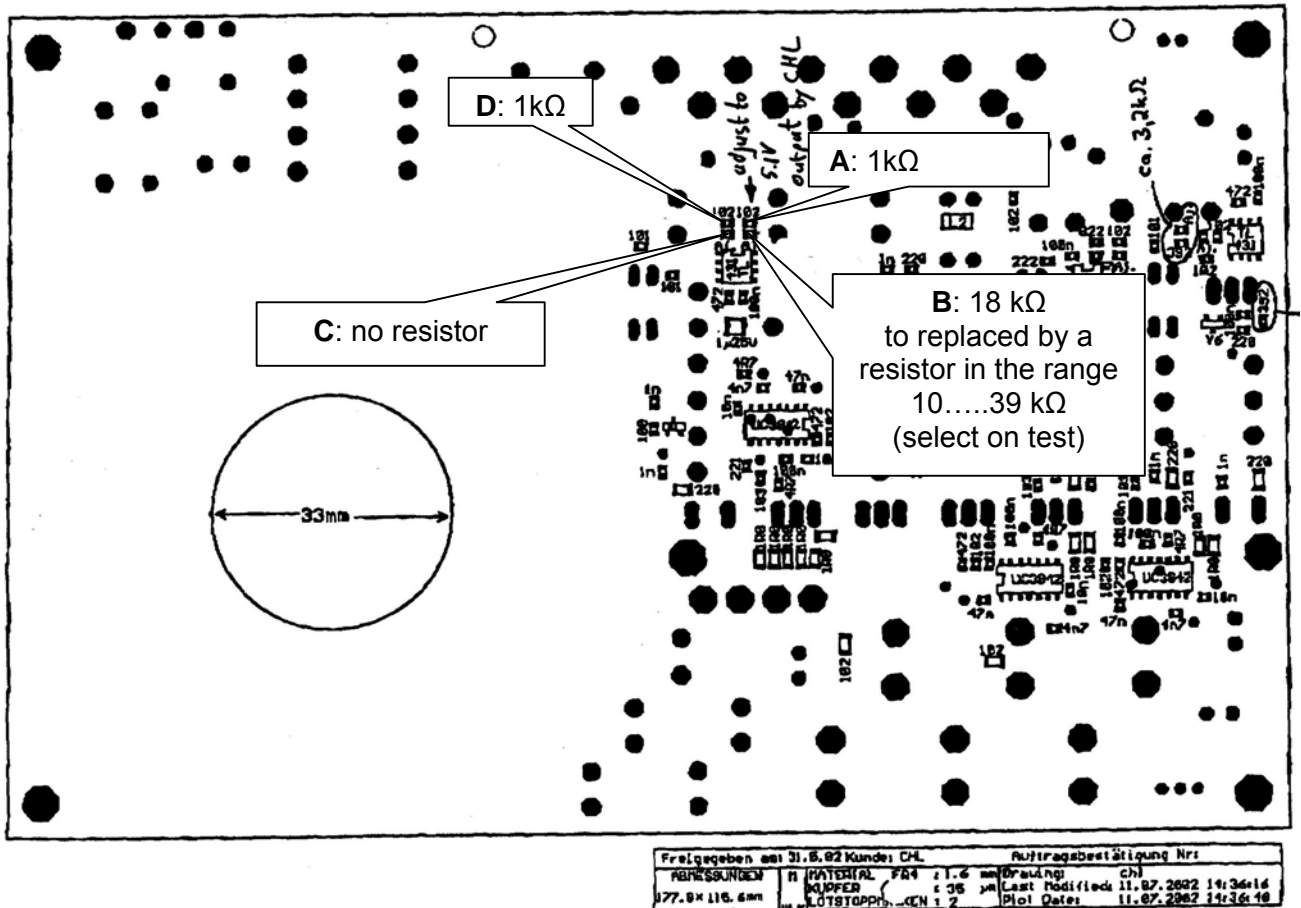

Fig. 1: Board layout of power supply type A5PS
8. Locate on the printed circuit board the area with the four SMD resistors (see fig. 1 and photo 12).